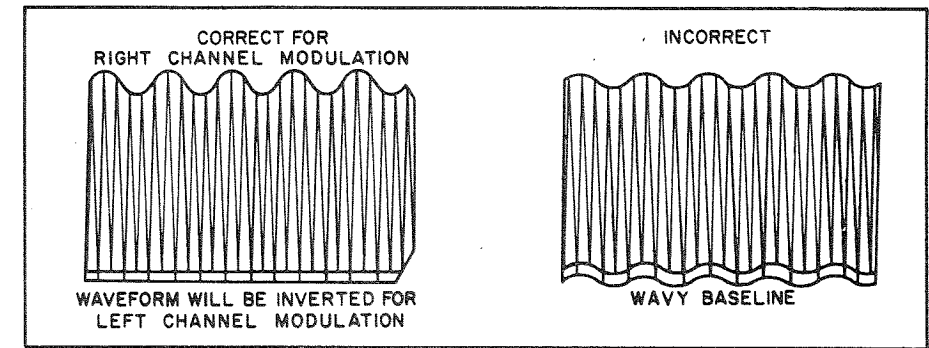

Figure 7. Waveform At Test Point 402.
(6) Turn R107 SEPARATION CONTROL (on preamplifier board) CW to maximum resistance setting. Adjust core of Z403 (on AM/FM IF, MPX board) for maximum gain and as straight a base-line as possible on scope (see Figure 7). AC VTVM should read minimum.
(7) With MPX generator modulated on right channel only, connect AC VTVM to Right RCDR OUT jack. Record reading on AC VTVM.
(8) Set MPX generator to modulate left channel only. Adjust R107 SEPARATION CONTROL (on preamplifier board) for minimum reading on AC VTVM; at least 30 dB below reading recorded in step (7). Record reading.
(9) Connect AC VTVM to Left RCDR OUT jack. Same reading ± 2 dB as recorded in step (7).
(10) Set MPX generator to modulate right channel only. Same reading ± 3 dB as recorded in step (8).